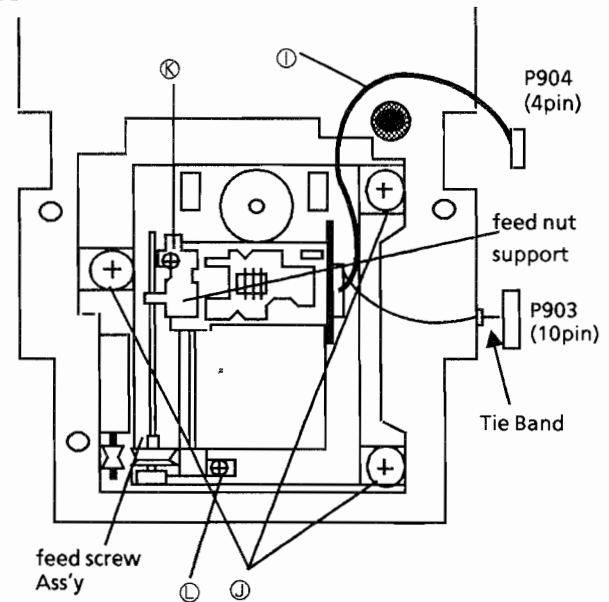

Fig.6
2. Rotate the cam gear ③ backward to open the Front door.
3. By inserting a thin driver from upside of the mecha ⑦, rotate the gear ⑧ (see fig.-11) counterclockwise to eject the tray. And, shift the tray to remove the fitting after unlocking the bottom of the rail base ass'y.
4. Remove the 2 screws ⑫ fixing the Changer mecha ass'y.
5. Slide the Changer mecha ass'y to arrow direction ⑬.
Wire ① should be set as Fig.6.